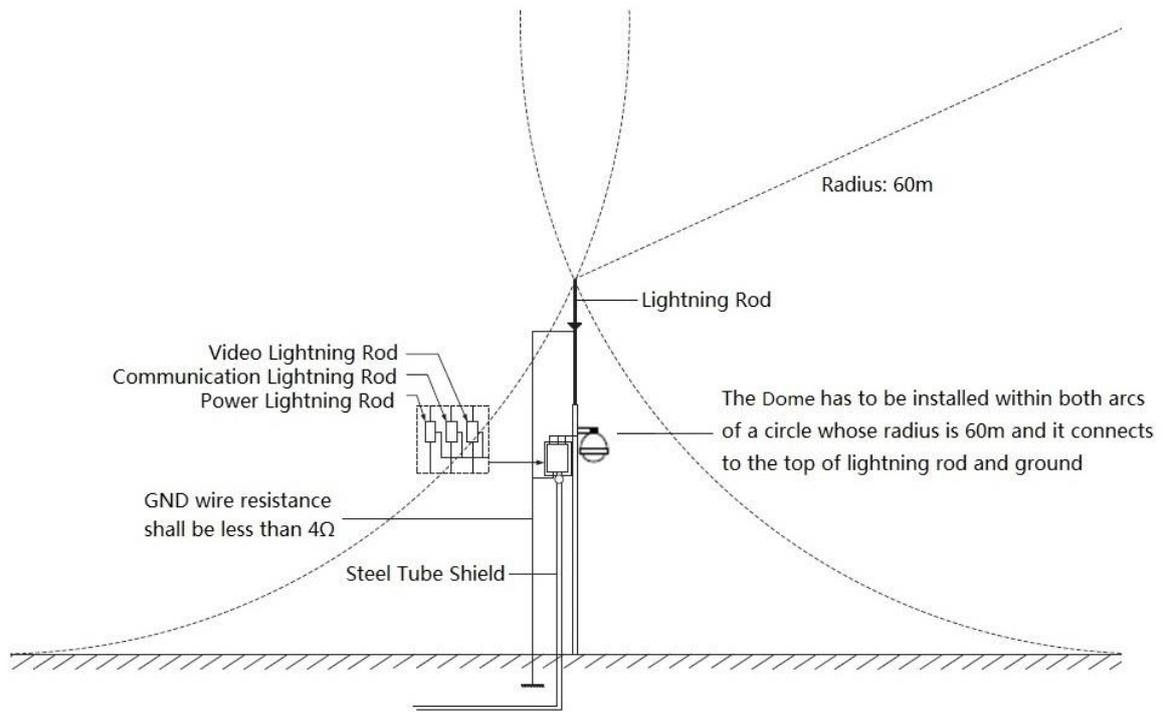

Figure 5-1
See Figure 5-1.
- System shall adopt equal-potential wiring. The earth device shall meet anti-jamming and at the same time conforms to your local electrical safety code. The earth device shall not short circuit to N (neutral) line of high voltage power grid or mixed with other wires. When you connect the system to the earth alone, the earth resistance shall not be more than 4Ω and earth cable cross-sectional area shall be no less than 25 mm² . See Figure 5-1.